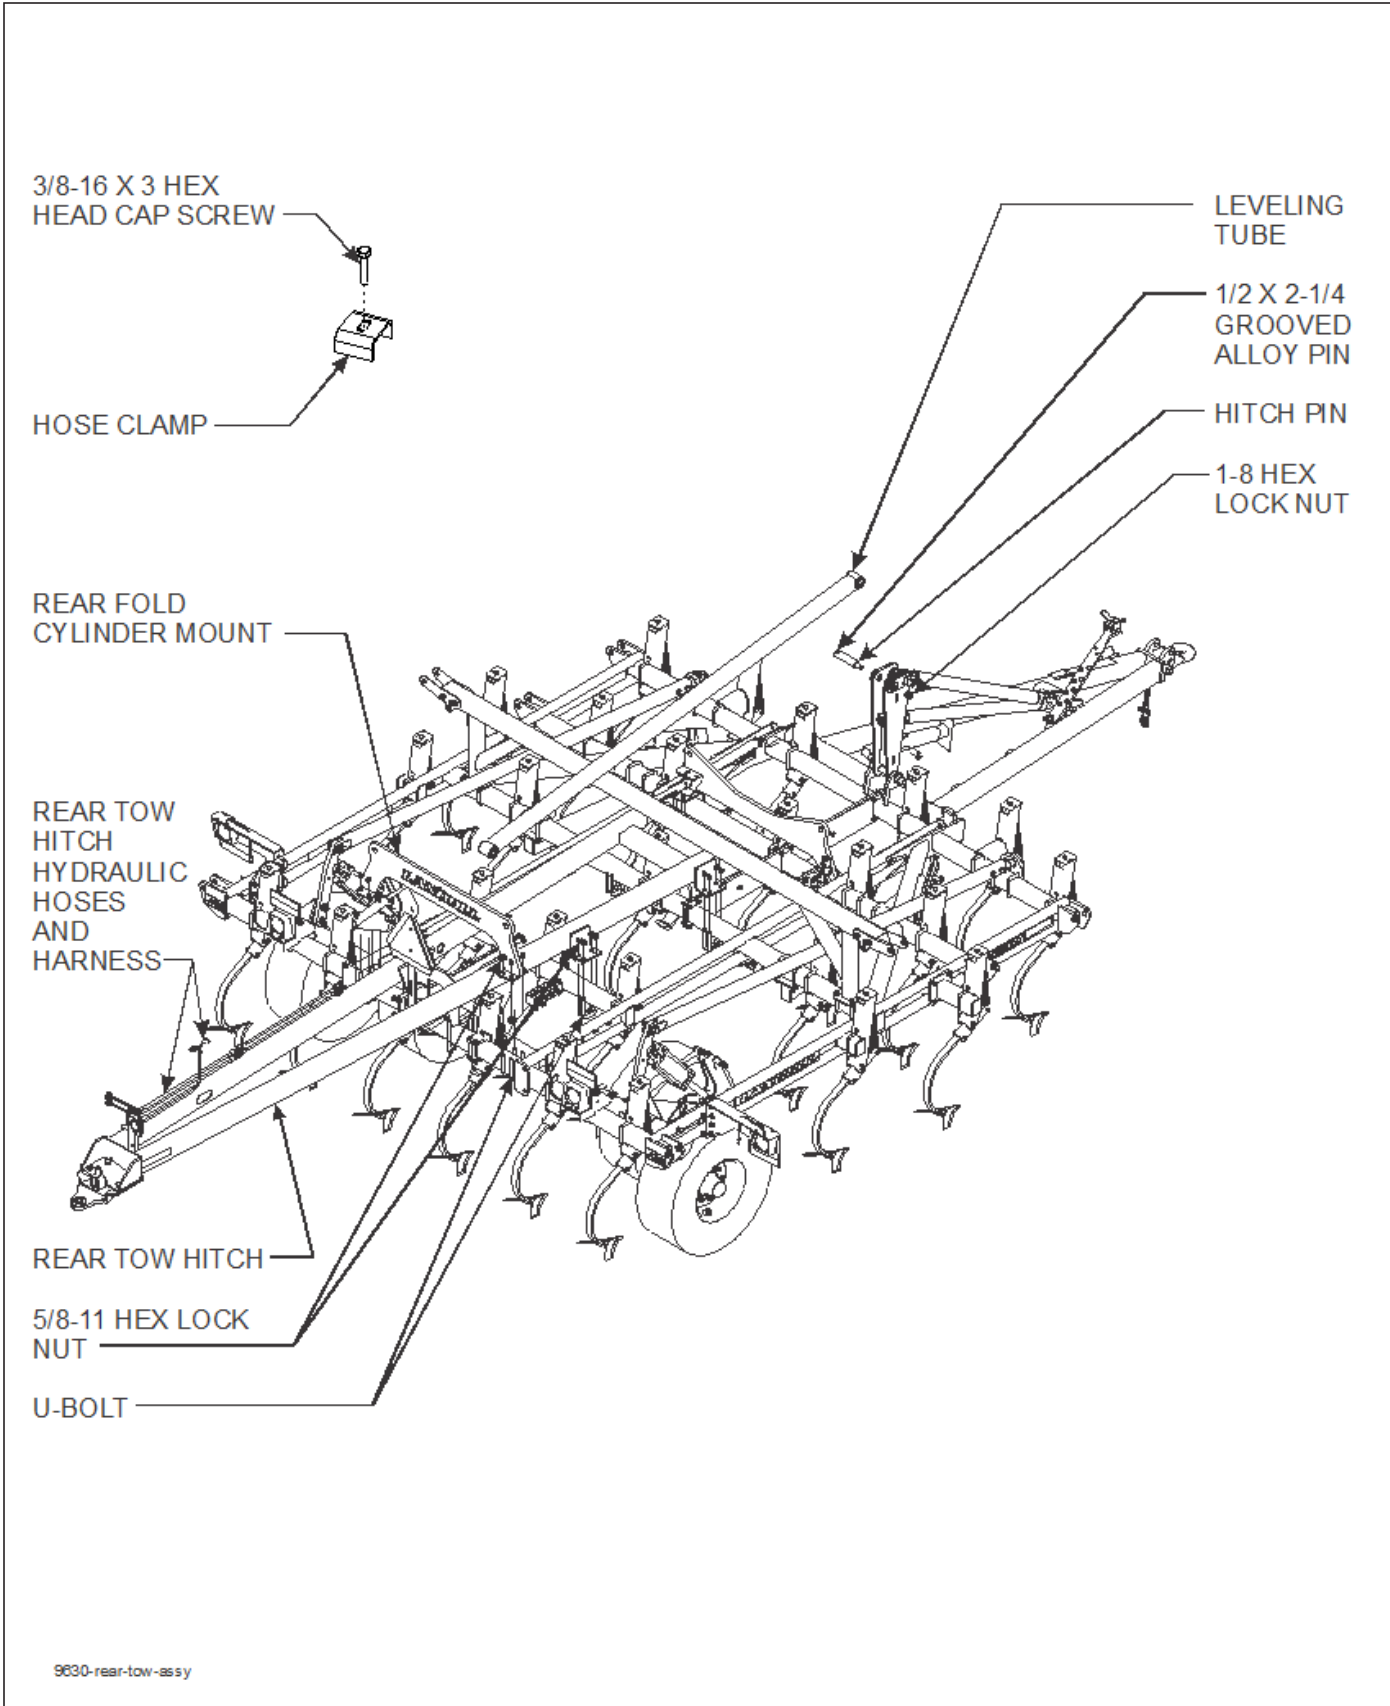

Figure 3-24: Rear Tow Hitch Installation
2. Remove the front-to-rear leveling tube **See Figure 3-24.**